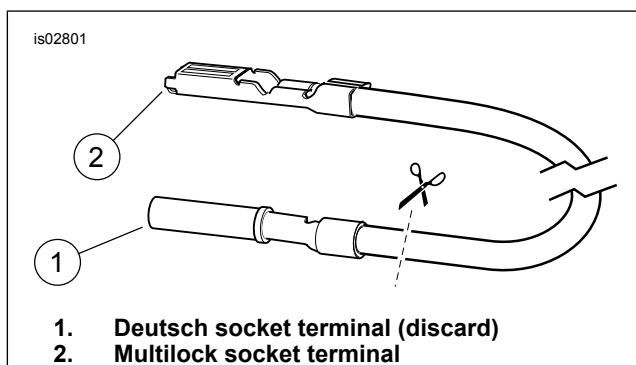

Figure 4. Cut Deutsch Terminal From Adapter Lead
- Cut off and discard the terminal on the pink (PK) **mini-tach wire harness** signal lead.
- Obtain the signal adapter wire lead (13) and a sealed splice connector (6) from the kit. See Figure 4. Cut the Deutsch socket terminal from the signal adapter wire lead, close to that terminal. Splice the signal adapter wire lead to the mini-tach wire harness signal lead according to the instructions in the service manual appendix.